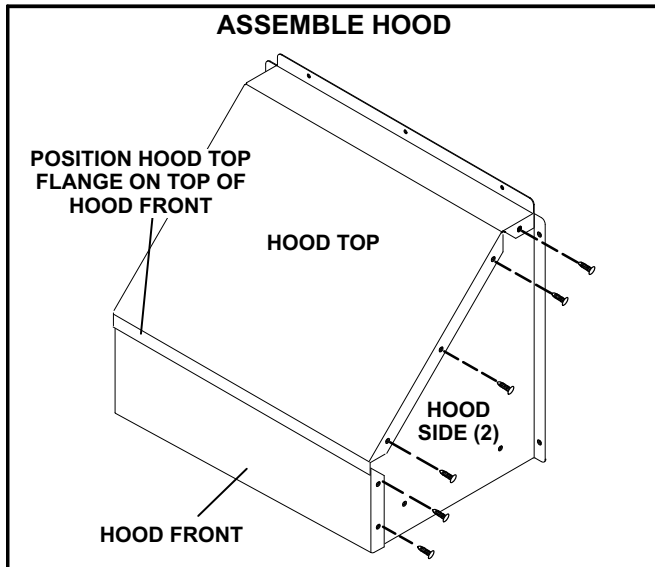

FIGURE 10
- 1- Assemble hood as shown in figure 10.